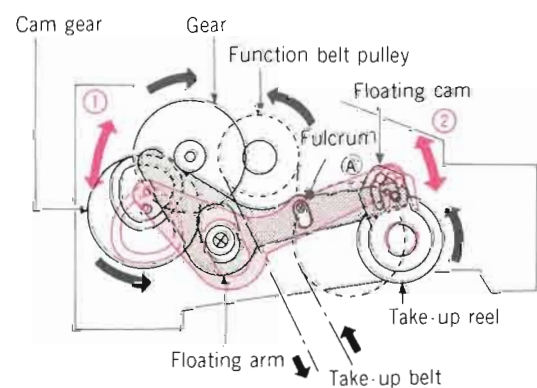
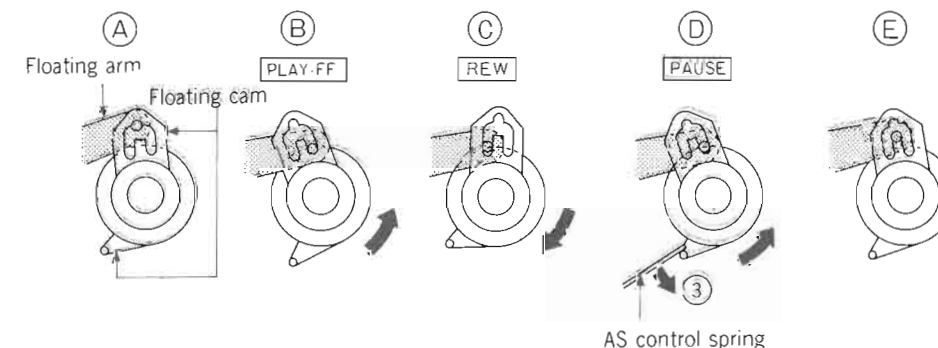
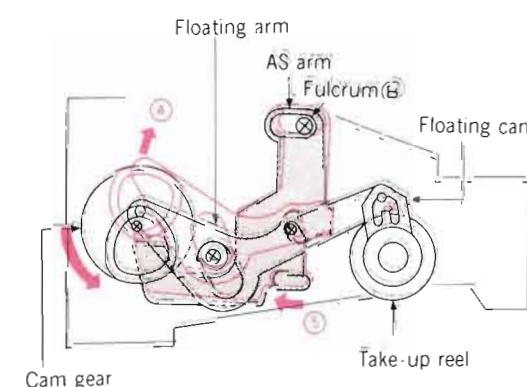

Figure 15
Figure 16
Figure 17
1) Figure 15 shows the tape-end detector for the auto-stop mechanism.
The Floating cam is provided on the same axis as the Take-up reel shaft, and it lightly touches the reel (by action of a spring). Utilizing the fact that when the Reel rotates, the floating cam faces in the direction of rotation, the floating movement of the Cam Gear and the Floating arm (which has its fulcrum at A) as shown in Figure 15) this movement is applied to this floating cam, to detect the end of the tape.
Shafts, which enter into the Cam of the Cam Gear and the shaft which in turn enters into the slide groove of the Floating cam, are provided at both ends of the Floating cam; the floating movement is carried out in the direction of arrow ① with its fulcrum at A as shown in Figure 15, by means of the rotation of the Cam Gear.
The shaft of the Floating Arm, which enters into the groove on the Floating Cam, operates to slide and relieve the floating movement which is caused by the Cam Gear by means of this groove. When the Cam of the Cam Gear rotates to the position shown in color in Figure 15, the shaft of the Floating Arm on the Floating Cam side goes into the mode shown in A of Figure 16.
Next, when the Cam Gear rotates to the position shown in black, the position of the shaft on the floating cam side goes into the mode shown in B of Figure 16, during playback or fast forward, and C during rewind. These slide grooves are determined by the direction of rotation of the reel.
2) When the tape-end is detected and the Floating Arm slides, the AS Arm (as shown in Figure 17) slides in the direction of arrow ⑤ with its fulcrum at B.
Incidentally, during Pause, since the reel is stopped, the auto-stop mechanism starts to operate. To prevent this, the Floating Cam is pressed in the direction of arrow ③ (take-up direction) by the auto-stop control spring as shown in D of Figure 16, during Pause and Stop. (The AS (auto-stop) control spring is operated by the sliding of the Brake Plate; it is so designed that the AS control spring is released from one end of the Floating Cam and the Floating Cam faces in the direction of rotation of the reel, except during the Pause and Stop modes.) When the tape is finished and the reel stops, the Floating Cam side shaft of the Floating Arm slides between A and E in Figure 16. The width in which it slides is smaller than that between A and B or A and C. When the Floating Arm slides up to point E in Figure 16, the Floating Arm slides in the direction of arrow ④ in Figure 17 with the Floating Cam as the fulcrum. The tape-end is detected by means of this sliding of the Floating Arm.